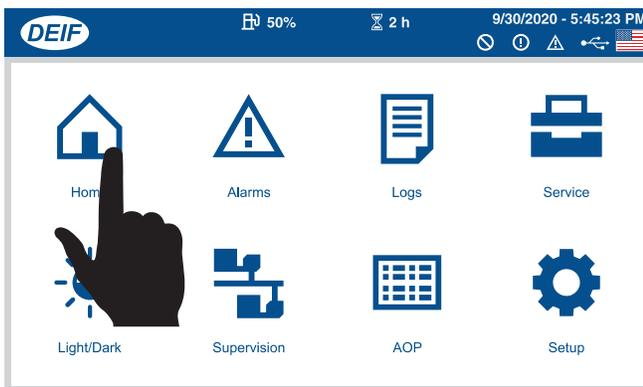

Figure 159. Main Menu Screen (Home Button)
7. Verify that the **Main Menu** screen (Figure 159) is displayed, then press the **Home** button.